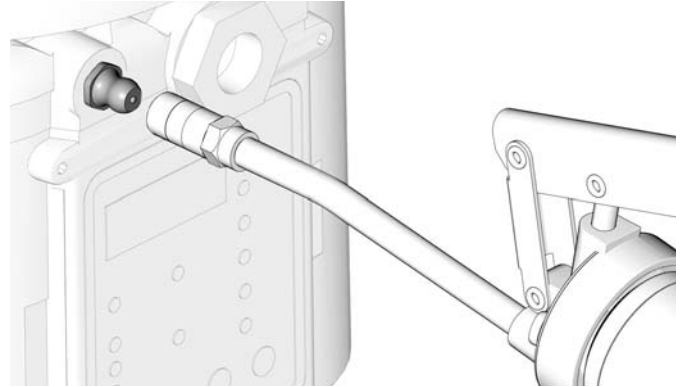

FIG. 32
- Fill the pump with grease through the grease zerk using a grease gun (FIG. 32).